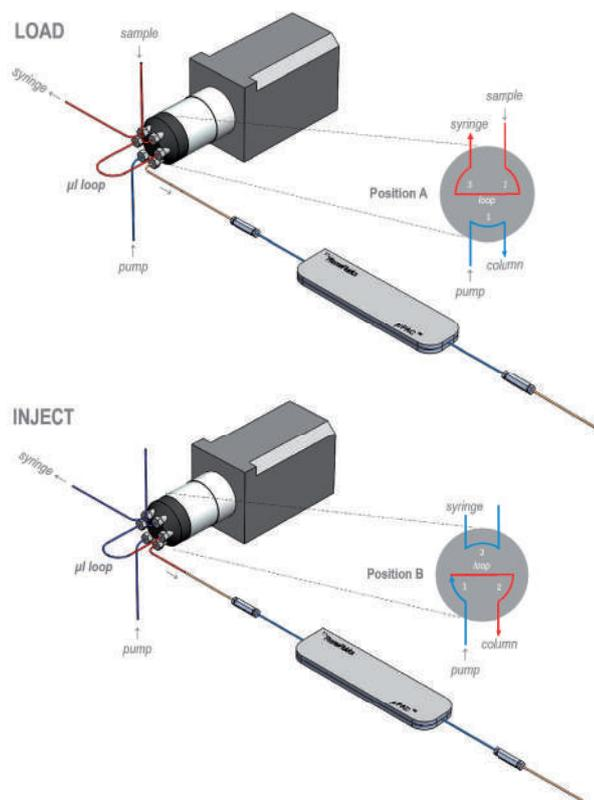

Figure 1: Connection scheme for µL volume injection
- The µPAC™ analytical column is connected to a standard HPLC 6-port switching/injection valve with the blue **Connect it!** 25 µm I.D. × 25 cm PEEKsil™ capillary (P/N: 201904TLK) (Figure 1).